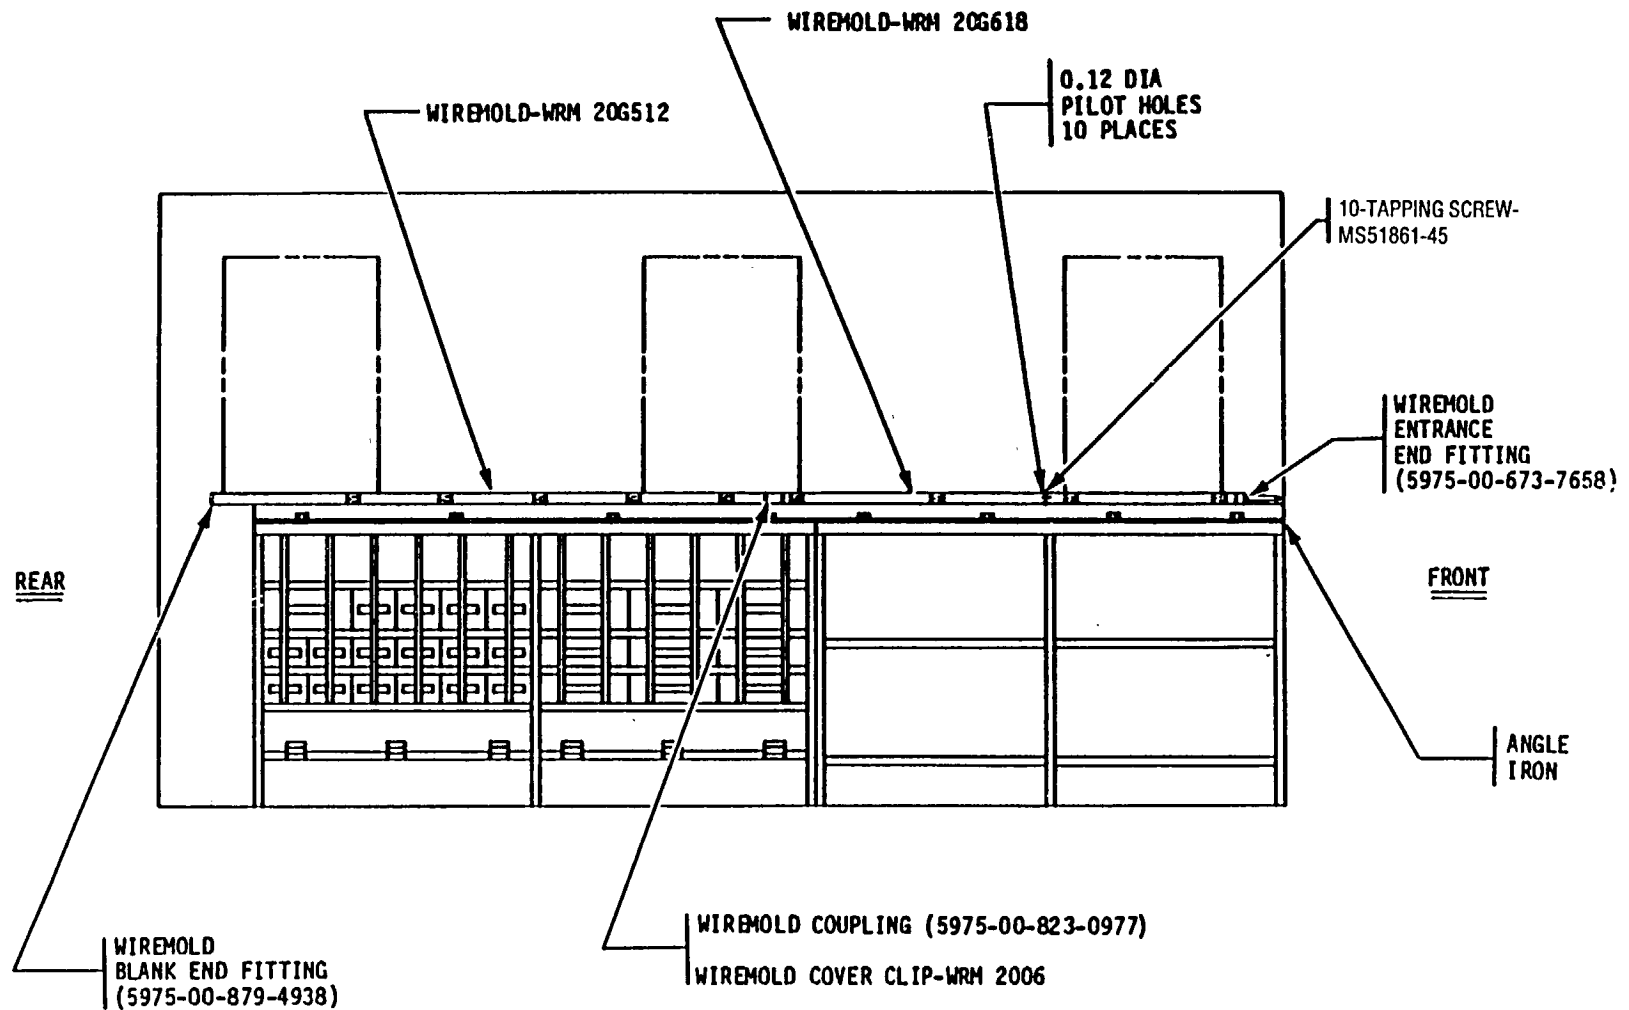

Figure 9. Wiremold Installation, Left Side Wall, M109A3.
(13) Connect two wiremold bases together (one each WRM 20G512 and WRM 20G618) using one wiremold coupling (5975-00-823-0977). Position connected wiremold bases on left side wall above furnished angle iron in accordance with figure 9. Using wiremold bases as a template, mark and drill ten 0.12-in. diameter pilot holes in van wall. Secure wiremold bases to van wall using ten #10 x 1/2-in. tapping screws (MS51861-45).
(14) Reposition front covers of wiremolds together. Position one wiremold cover clip (WRM 2006) over joint of wiremolds. Attach wiremold blank end fitting (5975-00-879-4938) to rear end of wiremold base and wiremold entrance end fitting (5975-00-673-7658) to front end of wiremold base. Refer to figure 9.